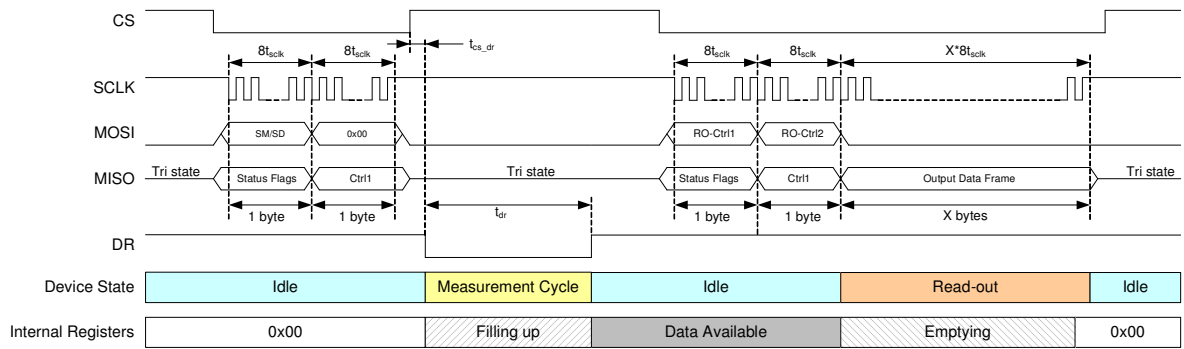

Figure 13 : Separated SM - RO (X value is defined in Figure 12)
- Figure 13 shows the operation with separate SM and RO commands. After upload of a SM command, the measurement cycle will start and the internal registers will be filled. Once the DR pin is high, the RO command can be uploaded to start the read-out cycle. All data of the internal registers will be transferred and at the end of the read-out the registers will be cleared.